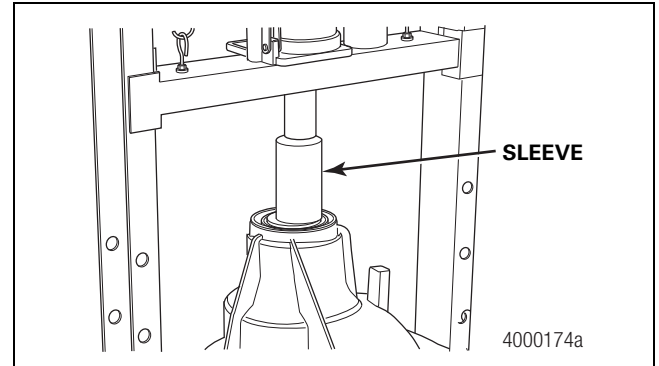

Figure 5.9
9. Using a sleeve that is the same size as the bearing cone, press the bearing onto the pinion shaft until it is fully seated in the carrier. Figure 5.9.